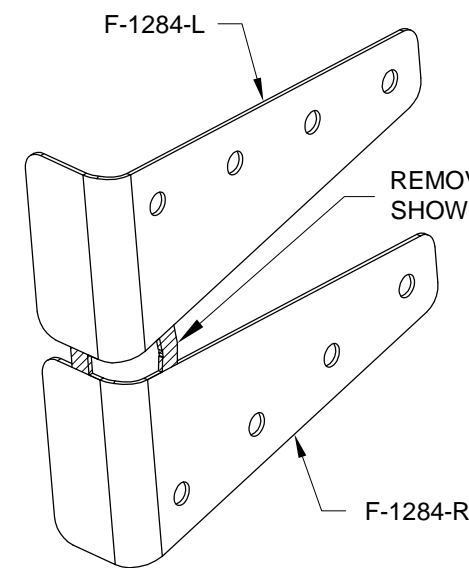

FIGURE 4:
Step 5: Mark, then separate the F-1284-L & -R Shear Clips by removing the areas shown hatched in Figure 4.